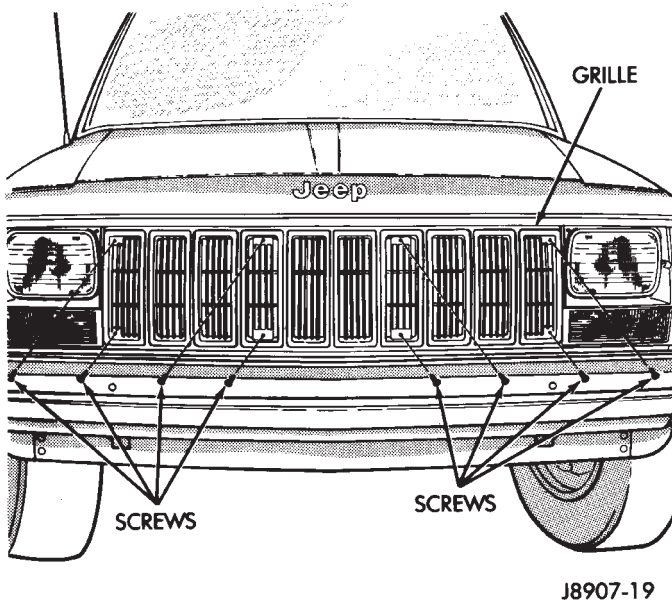
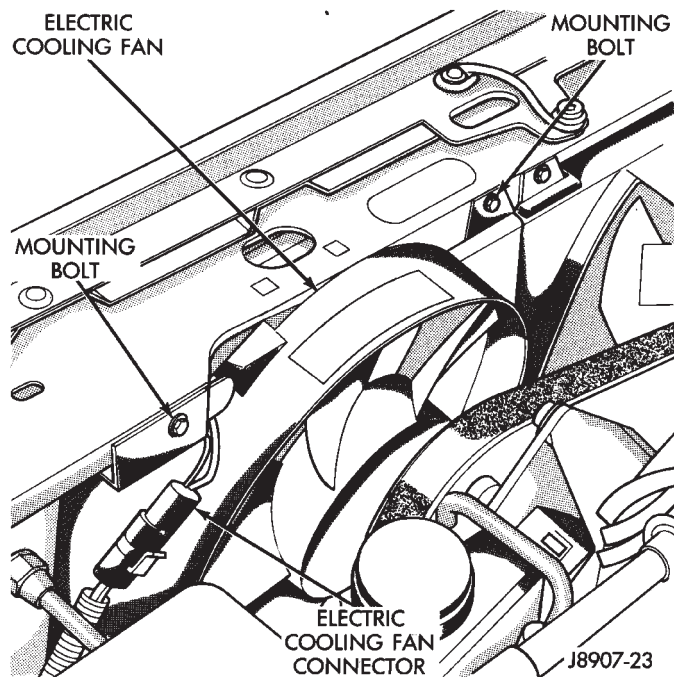

Fig. 29 Grille Remove/Install—Cherokee Models With 2.5L Engine
Fig. 31 Auxiliary Fan—Remove/Install
- (10) Remove the radiator grille mounting screws. Remove grille (Fig. 29).
- (11) Remove the air conditioning condenser-to-radiator mounting bolt. Use an open end wrench to re-
- (1) Disconnect negative battery cable at battery.
- (2) Observe the previous **WARNINGS**.
- (3) Remove pressure cap.
- (4) For access to radiator draincock, remove radiator grille (Fig. 29).
- (5) Attach one end of a 24 inch long X 1/4 inch ID hose to the radiator draincock. Put the other end into a clean container. Open draincock and drain radiator.
- (6) If equipped, disconnect electric cooling fan electrical connector (Fig. 31).